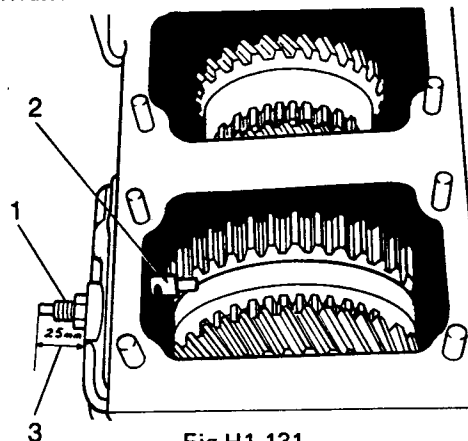

Fig H1.131
- (1) Refer to Fig H1.131. Fit the intermediate lever (2) together with the pad, making sure that the latter fits perfectly into the gear groove.
- (2) Fit the threaded pivot (1) so that this overlaps the casing by 25 mm, then fix the pivot with its nut. The height of the threaded pivot to be 25 mm (3).